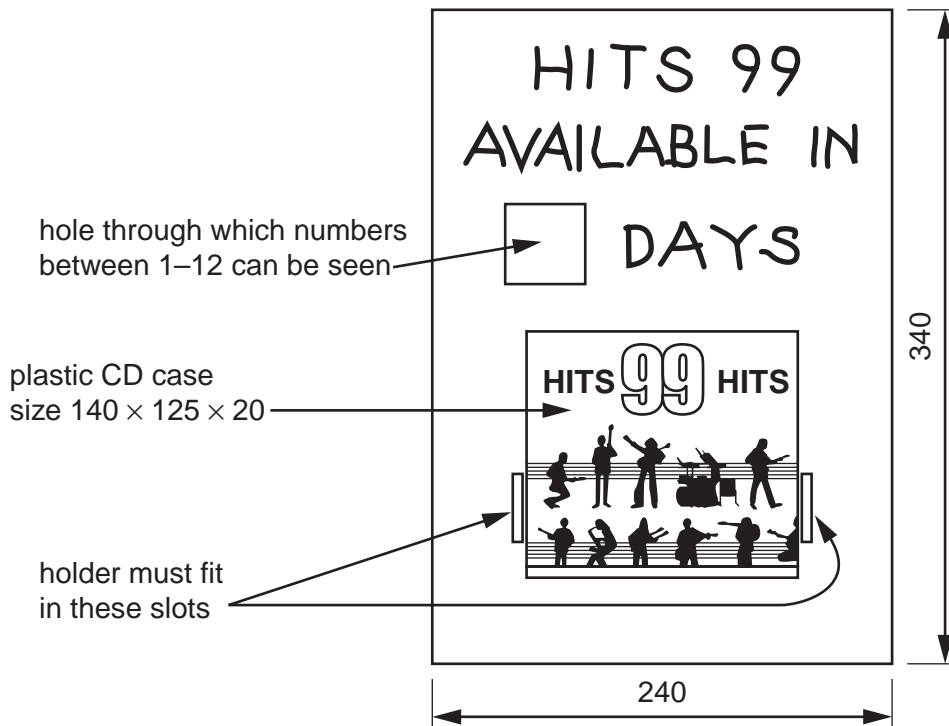

Fig. 9
- 8 Fig. 9 shows an incomplete idea for a point of sale display stand advertising a new CD (compact disc). The display stand is made from card.
- (d) Using notes and sketches, develop a design for the lettering shown in Fig. 9 to go on the stand in the given position. [16]